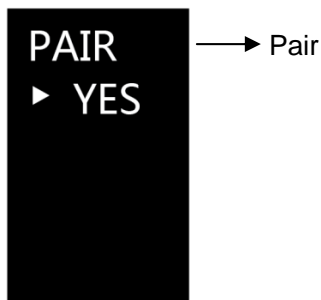
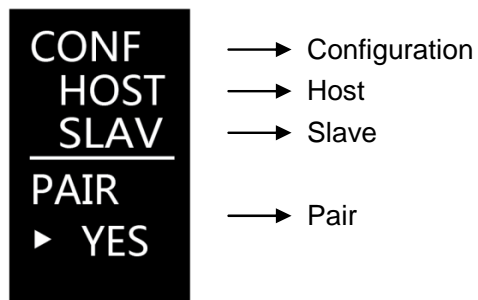
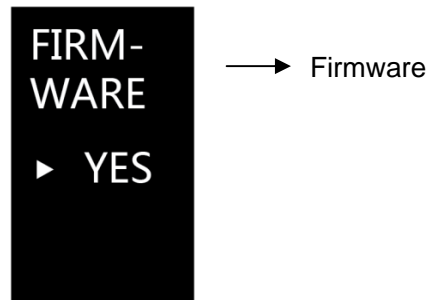

Fig.3
Fig.4
Fig.5
a : (Transmitter : Push the red five-direction adjustment key at the bottom of the display screen. Fig 3 and Fig 5)
b : (Receiver : Push the red five-direction adjustment key at the bottom of the display screen . Fig 4 and Fig 5)
1. The transmitter and receiver display different contents in the configuration setting interface: the transmitter only displays "PAIR", and the receiver displays "CONF", "PAIR" (Fig 3 , Fig 4).